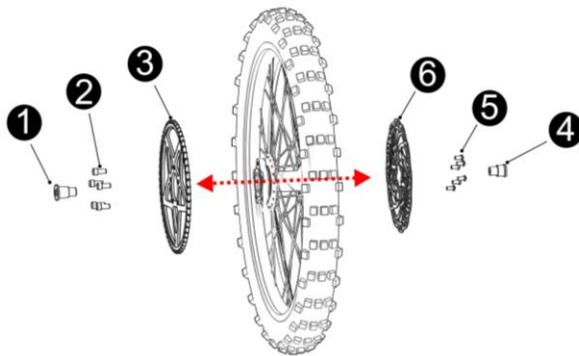

Fig 51
11.22 Disassemble rear wheel (see Fig 51)